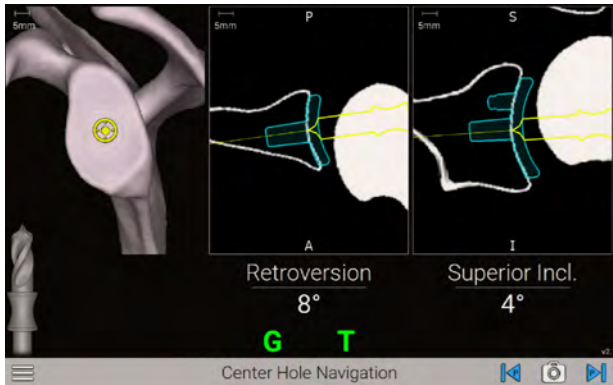

Figure 37a
- For positioning of the drill, the tip of the drill is indicated by a yellow dot (Figures 37a and 37b).
- The planned position is indicated by a blue dot (Figure 37a).